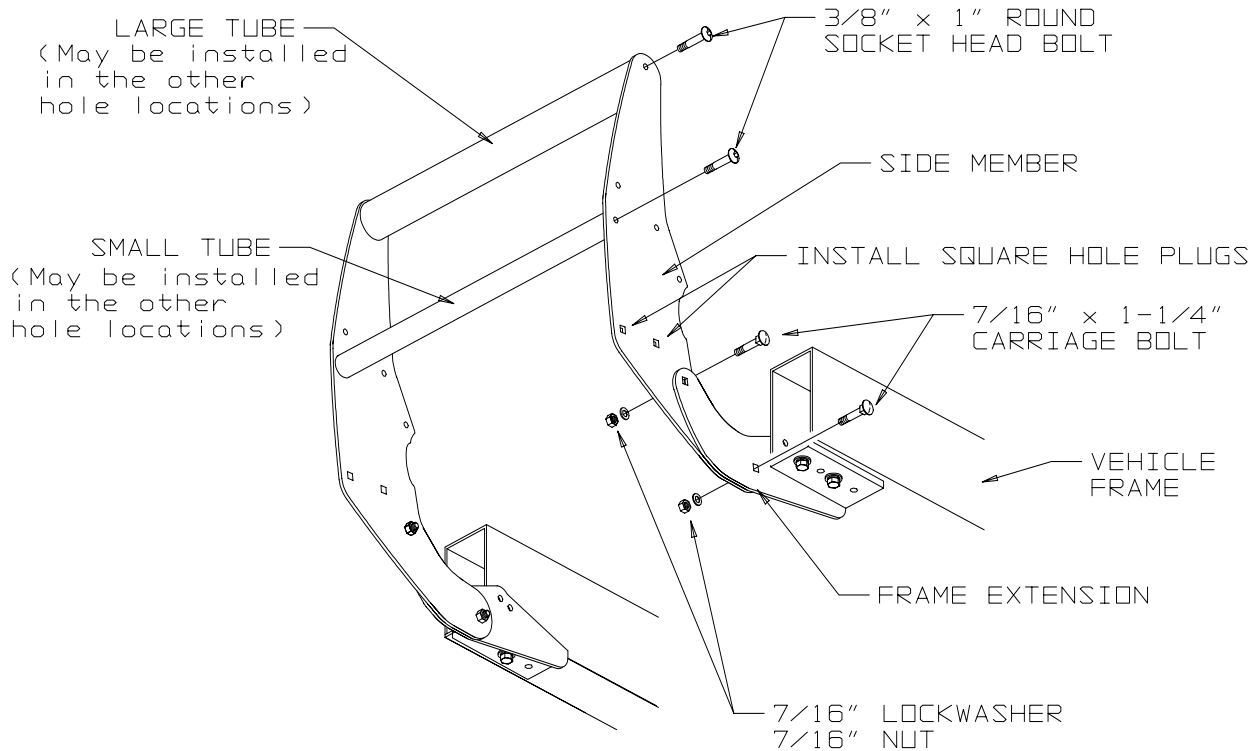

Figure 3
5. Install the side members onto the inside surfaces of the frame extensions as shown in **Figure 3**.
6. If the Trans4mer is being installed as a grille guard and a winch is not being mounted at this time, install the tubes in any desired position as shown in **Figure 3**. If the Winch Carrier or the